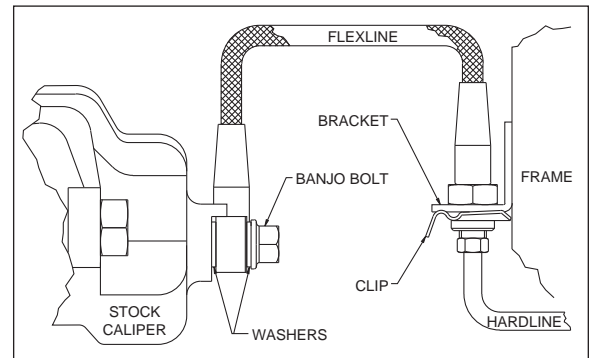

Figure 3. Brake Line Diagram
- Using new mounting hardware supplied in the kit (6), bolt flexline to back of stock caliper, see Figure 3. Torque banjo bolt to specifications included with the flexline kit (DS-573).